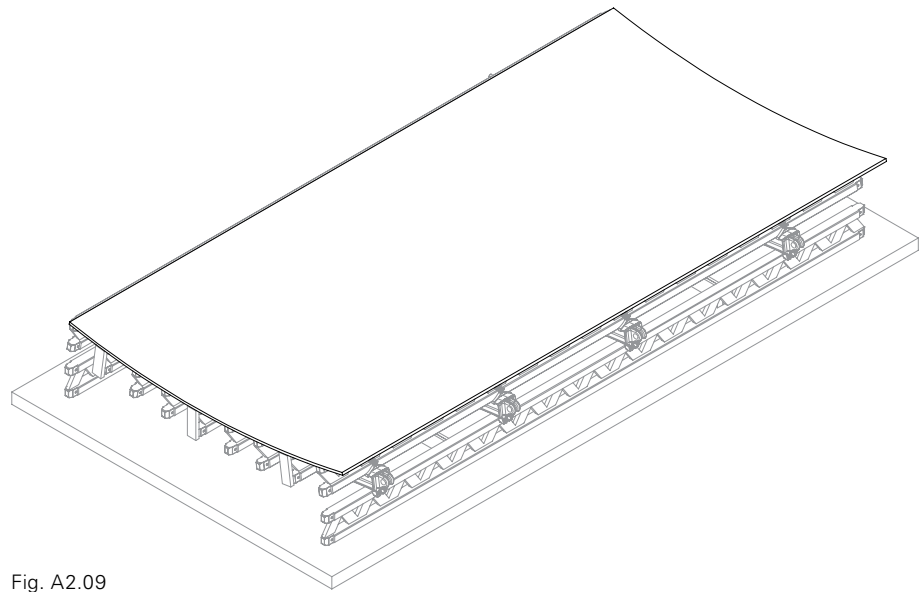

Fig. A2.09
2. Fix formlining with screws. (Fig. A2.09)